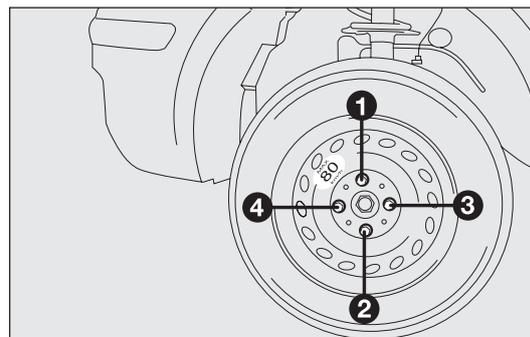

fig. 155
- use the wrench provided to fasten the bolts completely in a criss-cross fashion as per the order illustrated in fig. 155;